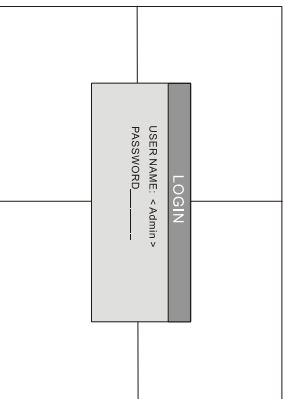

Fig3.1 Login
STEP1 Press "Menu" button and input username and password (referred Fig3.1 Login), you will see the Main Menu